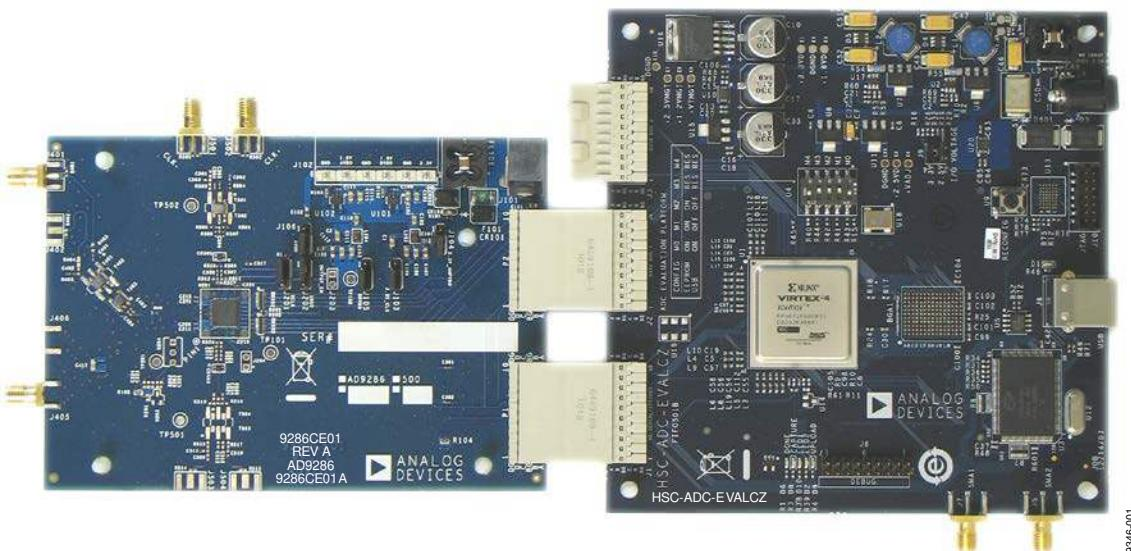
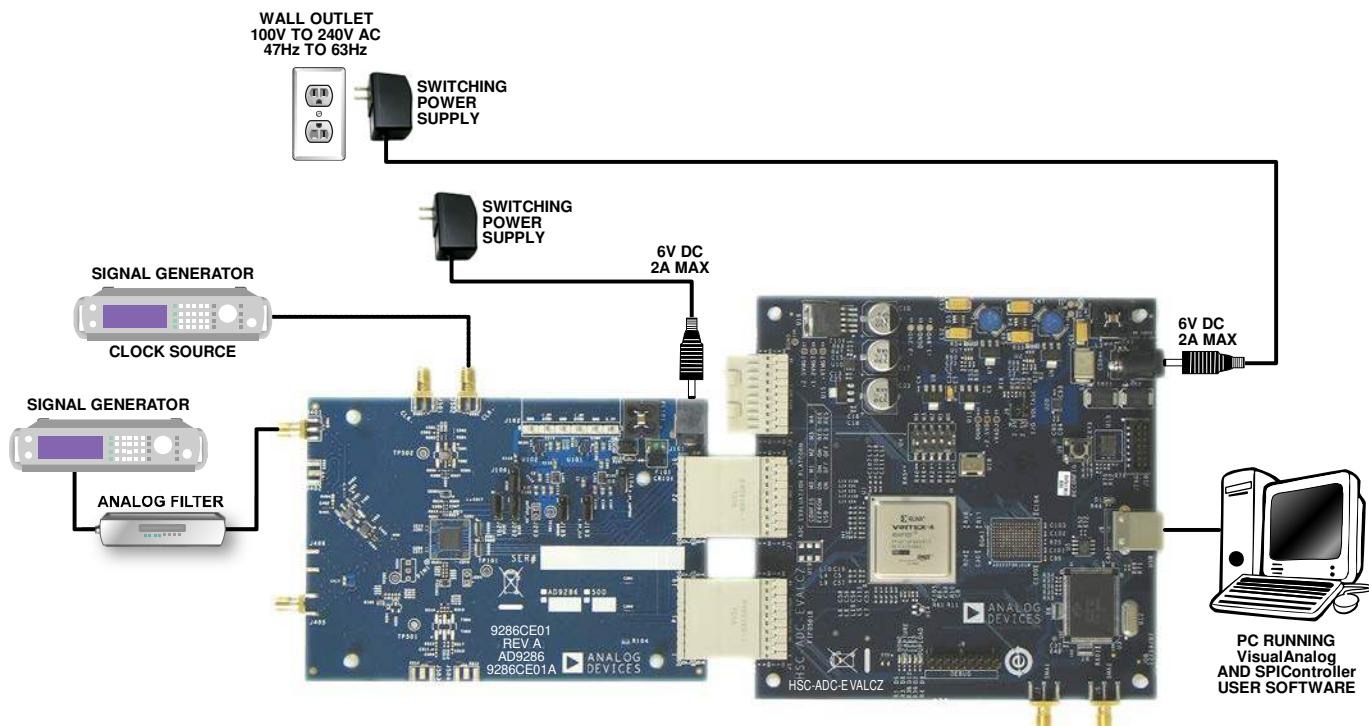

Figure 1. AD9286 Evaluation Board and HSC-ADC-EVALCZ Data Capture Board
Figure 2. Evaluation Board Connection
The AD9286 evaluation board provides all of the support circuitry required to operate the AD9286 in its various modes and configurations. Figure 2 shows the typical bench characterization setup used to evaluate the ac performance of the AD9286. It is critical that the signal source used for the analog input and clock have very low phase noise (<1 ps rms jitter) to realize the optimum performance of the signal chain. Proper filtering of the analog input signal to remove harmonics and lower the integrated or broadband noise at the input is necessary to achieve the specified noise performance.
1. Connect the evaluation board to the data capture board, as shown in Figure 1 and Figure 2.